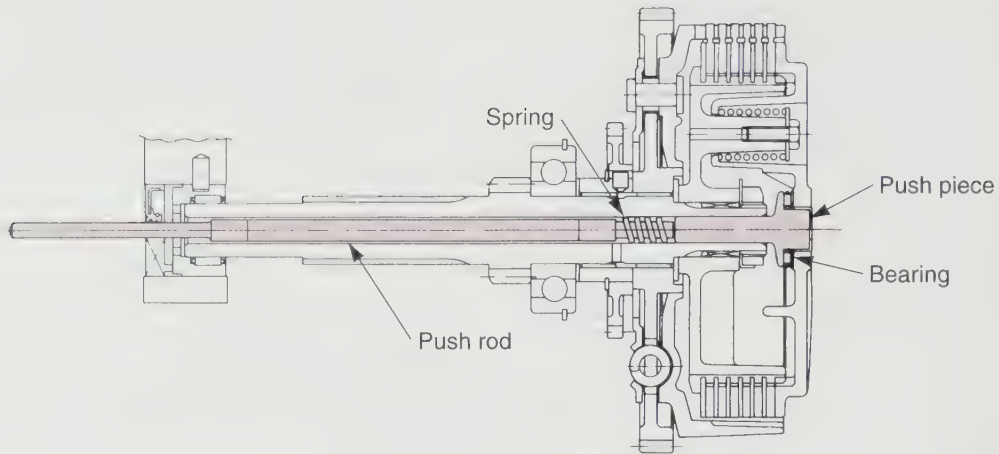

Figure 21-12. Clutch push rod and related components must be installed in their proper positions. (American Suzuki Motor Corporation)
12. Install clutch push rod and other related parts correctly, **Figure 21-12**.